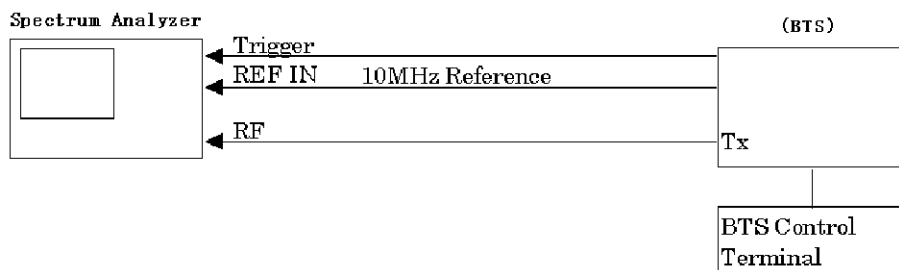

Figure 2-13 Setup for the measurement of the W-CDMA signal (Multi Rate ON)
1. Connect the unit under test as shown in Figure 2-13.